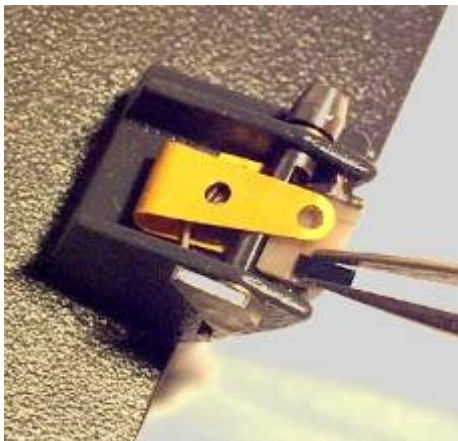
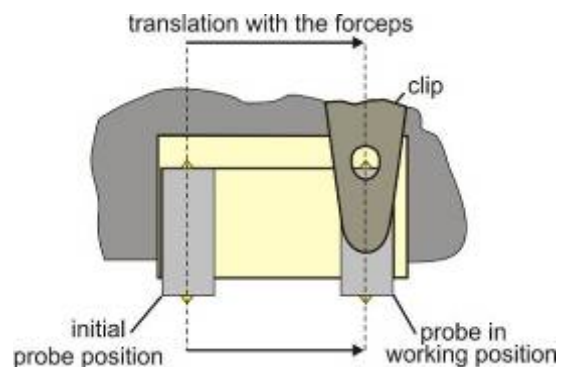

Fig. 2-29
Fig. 2-30
3. Place the probe on the polycrystalline sapphire pedestal to the left of the working position (Fig. 2-29, Fig. 2-30) which is in the right corner under the clip;
4. Move the probe with the forceps to the working position (Fig. 2-31) as shown schematically in Fig. 2-30. The probe working position is shown in Fig. 2-32;